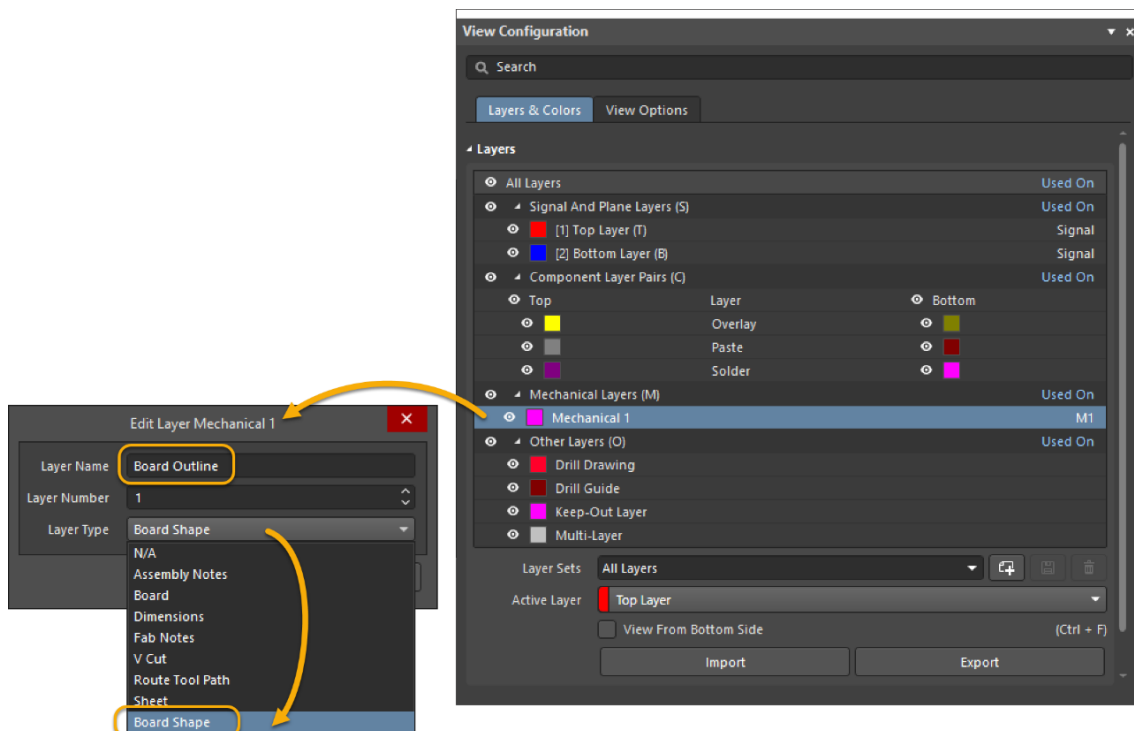

Figure 2. Renaming Mechanical Layer
15. Right-click on layer **Mechanical 1** and select **Edit Layer** as shown in Figure 2. Change the Layer Type to **Board Shape** and the Layer Name to **Board Outline**.